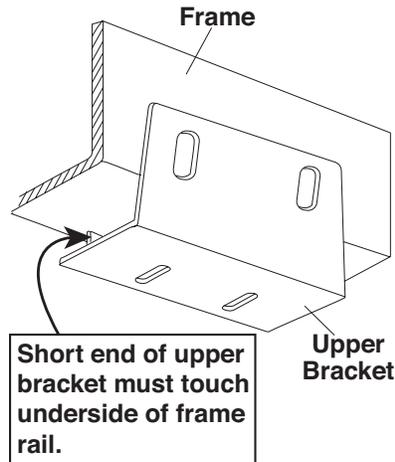

fig. 3
The short end of the upper bracket must be positioned so that it is touching the underside of the frame rail (Fig. 3).
2. Put the upper bracket into position on the frame rail and drill one 1/2" hole in the side of the frame rail (Fig. 3).